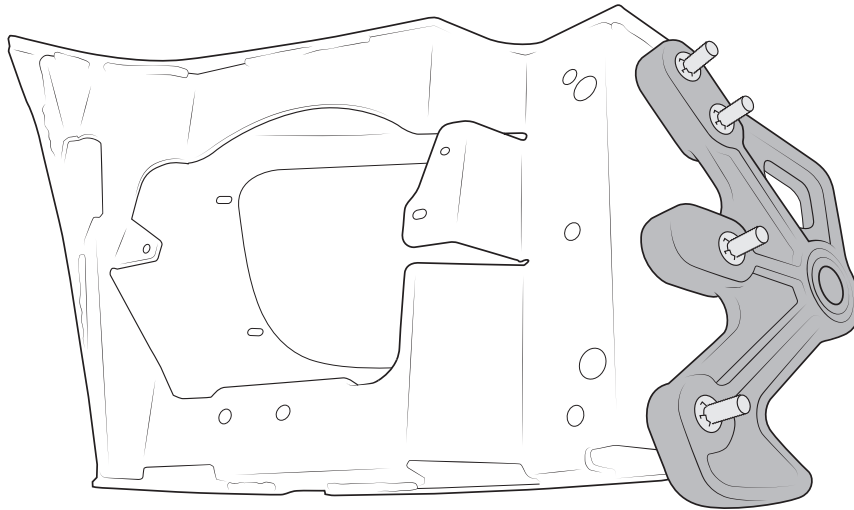

Figure 14
1. Assemble the tow loops and bumper corners with M12 x 70 carriage bolts and push nuts as shown (fig. 14). **NOTE: Start ALL of the bolts through the corner and tow loop before putting the push nuts on.**